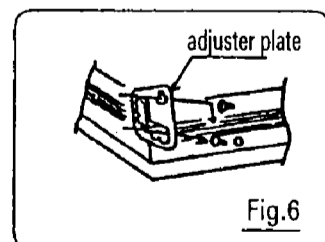

Fig.6
b. Set the four adjuster plate to each screws for the adjuster plate. (Fig. 6)(Refer to Fig. 7 for the direction of the adjuster plate.)